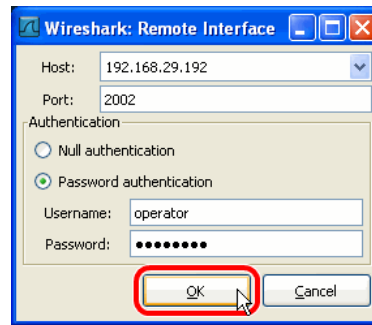

Figure 64: Wireshark Remote Interface Dialog.
4. Enter the correct settings for **Host** and **Port** (default 2002) and, if authentication is enabled, enter **Username** and **Password** in the corresponding fields as shown in Figure 64.